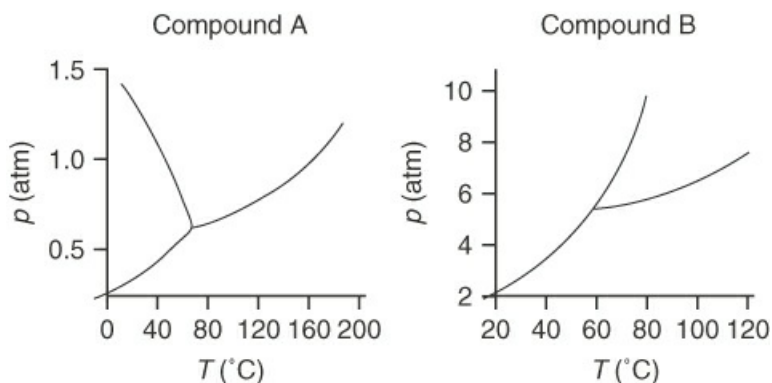

Figure P7.2.9
- **7.2.9 Based on the phase diagrams in Figure P7.2.9, answer the questions and explain your answers.